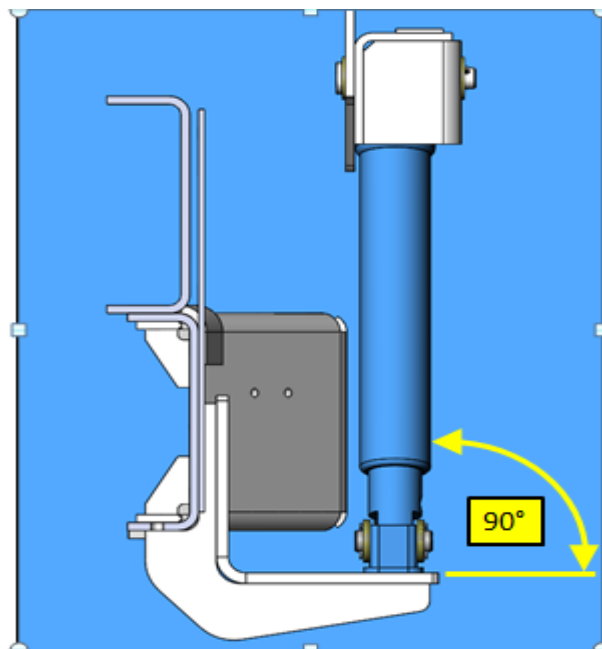

FIG. 21-2
35. Slide the lower mount foot laterally so that the lift cylinder is set to 90 degrees as indicated. Refer to FIG. 21-2.